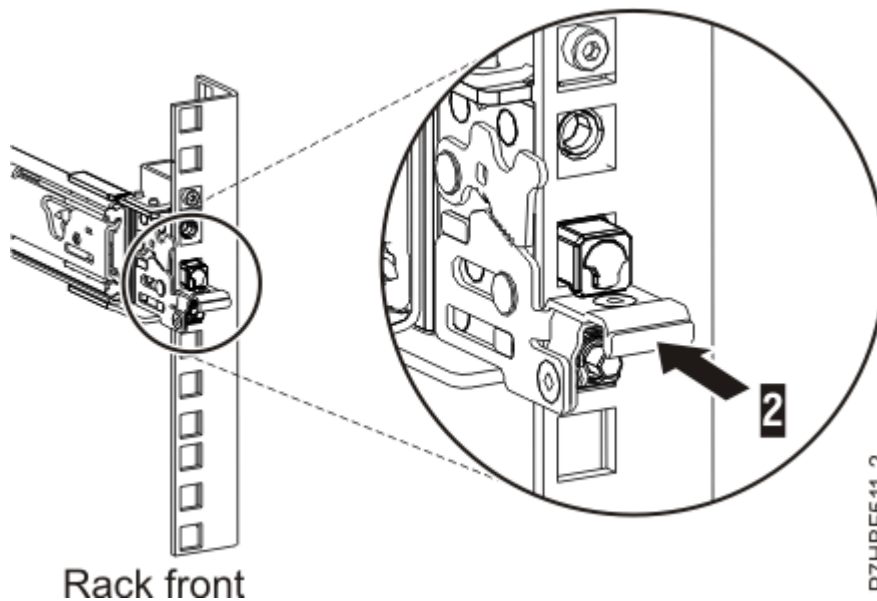

Figure 6. Latch seated on the front rail of the rack
7. While you pull the slide rail forward, ensure that all three pins protrude through the rack holes, then push the front latch **(2)** all the way in. For details, see Figure 6 on page 6.